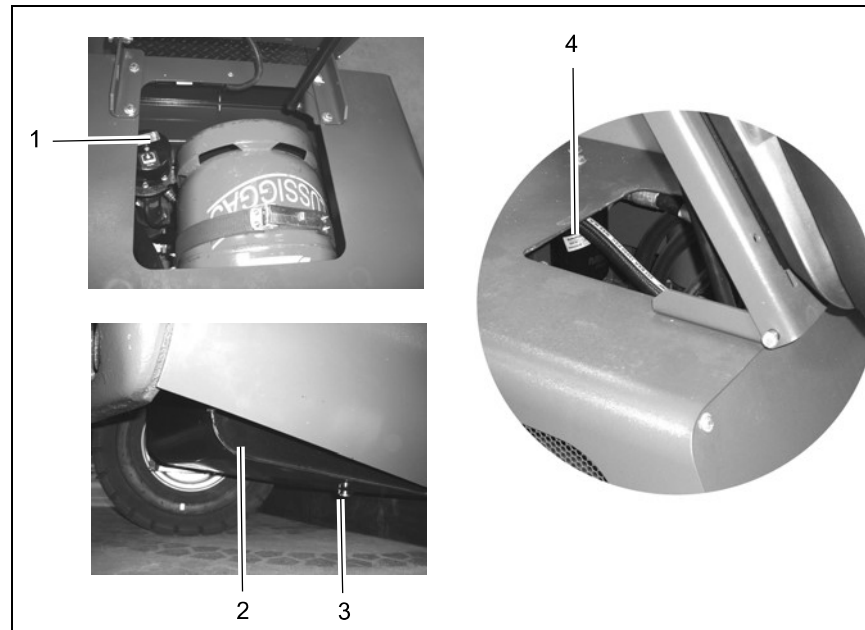

Fig.17
2. Remove the cap (Fig. 17/1) and wipe the oil dipstick with a clean cloth. Replace the dipstick.
2. Place an appropriate collecting vessel under the drain plug (Fig. 17/3) of the hydraulic oil tank (Fig. 17/2). Oil quantity: 23 liters.
2. Unscrew the hydraulic oil filter (Fig. 17/4).